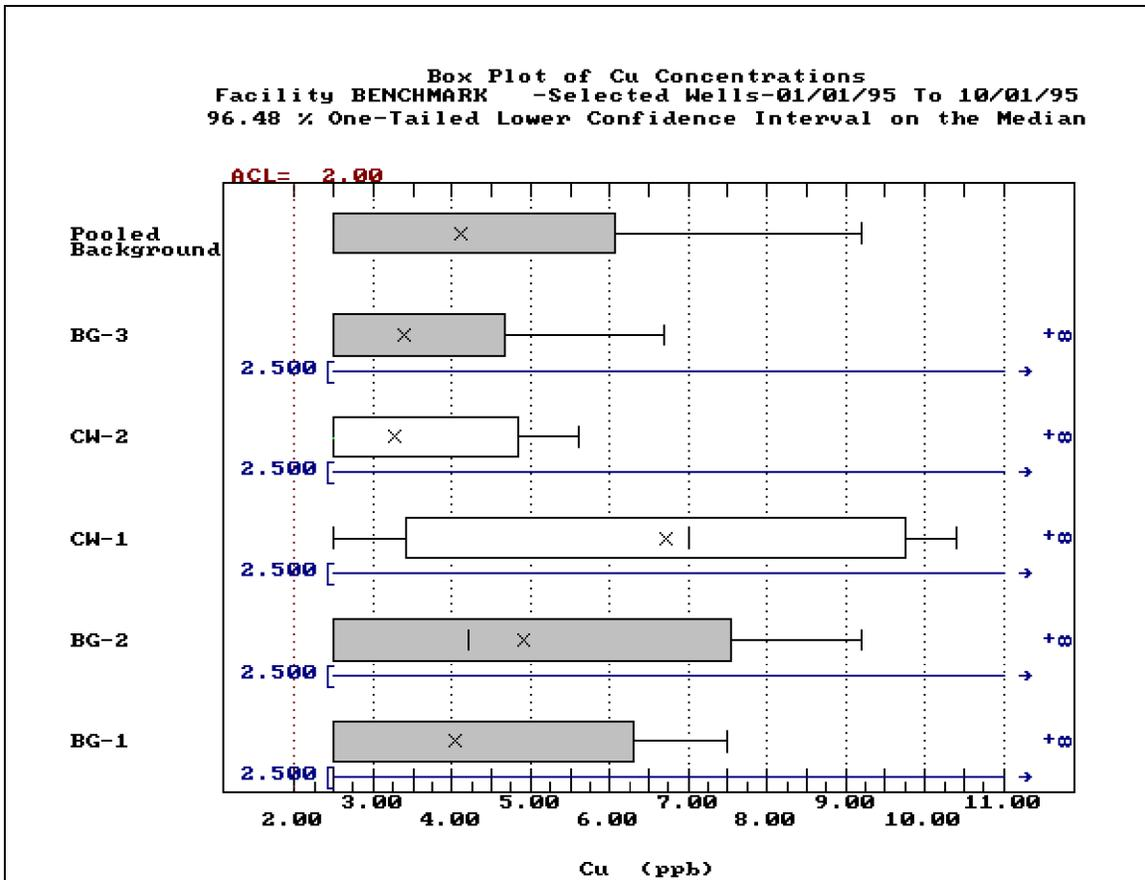

Figure 5-112. One-sided lower Non-Parametric Confidence Intervals superimposed on Box Plots.
8. Use the **Reports | Display** option to view a graphical representation of the Non-parametric Confidence Interval results (Figure 5-112). The Confidence Intervals and concentration limit (i.e., ACL or MCL) are superimposed on Box Plots.